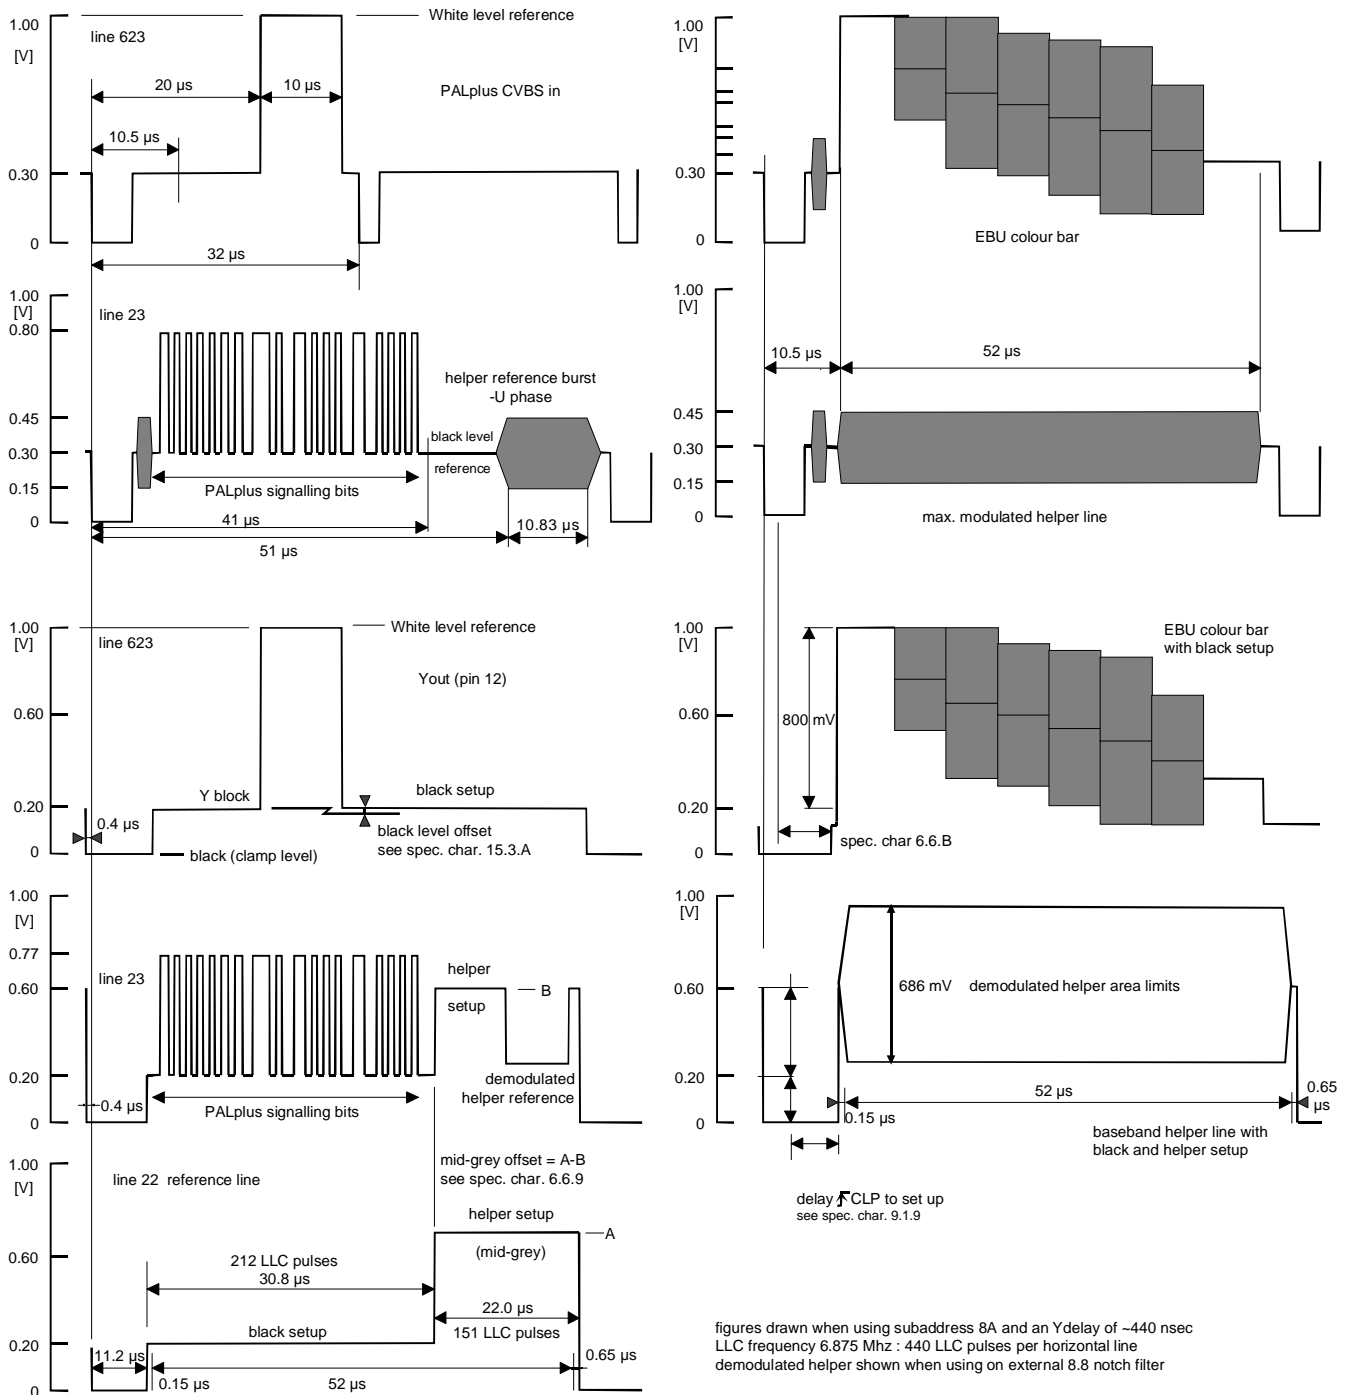

Fig 11 : PALplus CVBS input and Y output signals
- creation of reference line 22 (see Fig 11).
- creation of black set-up and helper set-up (see Fig 11).
Bus bits **HD** and **MACP** also determine the presence of a black set-up voltage (with luminance scaling of a factor 0.8) and a helper set-up voltage for the demodulated helper signal on the Y output signal. These set-up voltages are necessary for PALplus signal post processing outside the TDA9321 H. The set-up voltages are also multiplexed into a reference line 22, used together with the demodulated helper reference of line 23 and luminance reference of line 623 both present in every PALplus signal for correct PALplus reference post processing. See Fig 11.
The signalling bits in line 23 (see Fig 11) are processed in the same manner as letterbox luminance lines.